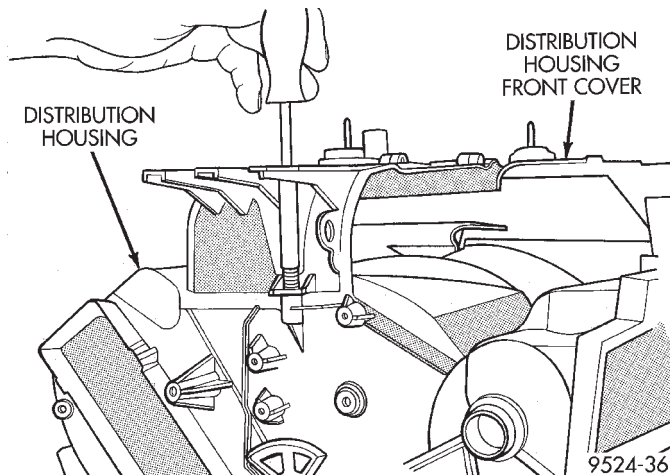
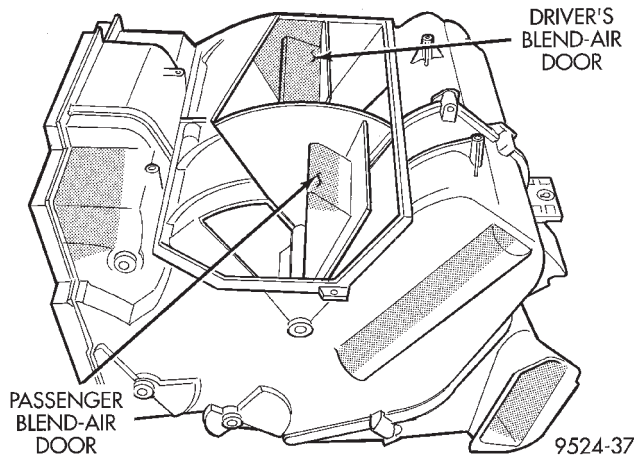

Fig. 70 Front Cover
Fig. 71 View of Zone Control Doors
(17) Remove distribution housing front cover (Fig. 70) and (Fig. 71).